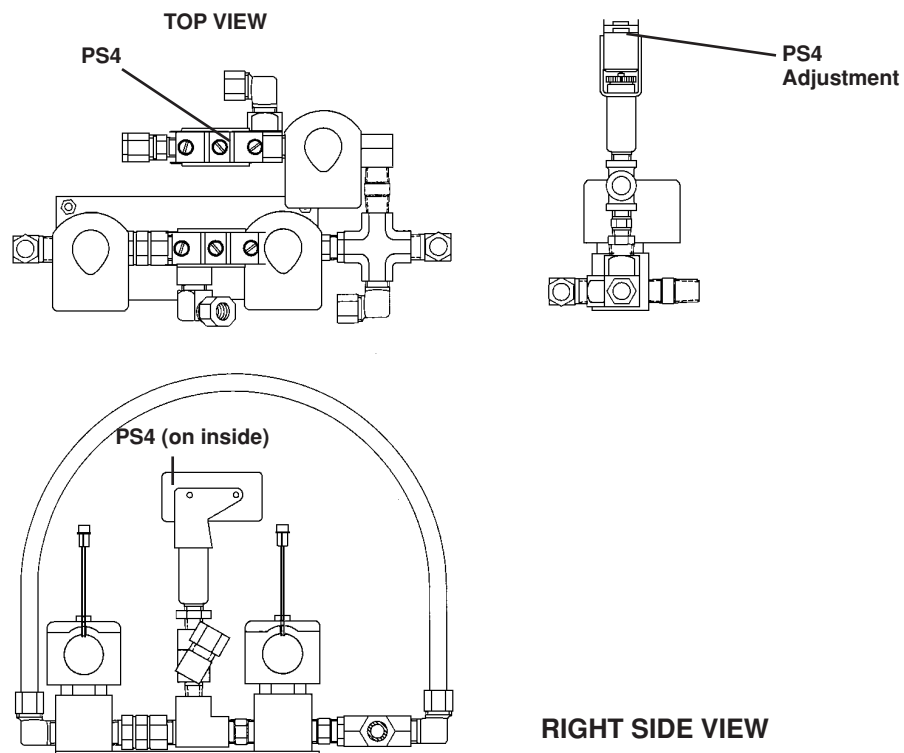

Figure 5-4 Pressure Switch PS4 and Adjustment Location
2. If the plasma gas RUN pressure does not quickly reach the value stated in the Cut Charts **after arc transfer**, you may need to adjust PS4. Remove the right side panel of the power supply. On the floor of the power supply, locate pressure switch PS4 by referring to Figure 5-4 and adjust by turning the PS4 Adjustment screw in a clockwise direction.